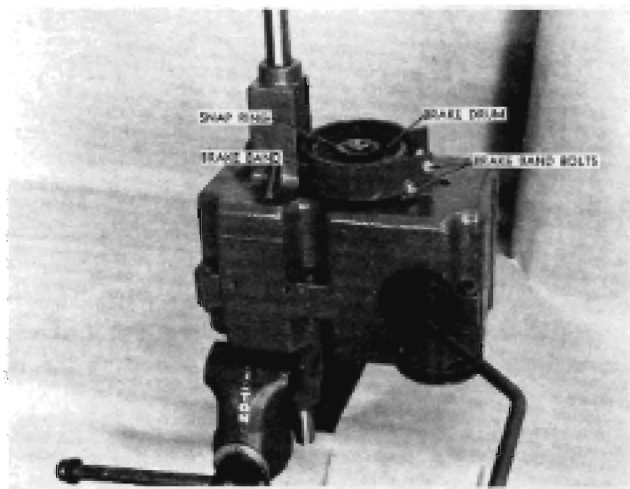

FIGURE 1
2. Place the transmission assembly in a vise or suitable holding fixture, as shown in Figure 1.